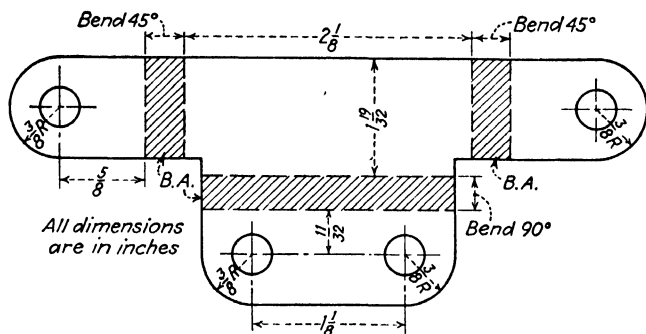

Fig. 258.
Figure 258 shows the diagram of a 0.125-in. low-carbon steel fitting.
2. Find the tensile strength of the fitting in Fig. 258 if the diameter of all holes is $\frac{1}{4}$ in., (a) each end; (b) at the side having two holes. Use the table of safe working strengths page 169.
3. Make a full-scale diagram of the fitting (Fig. 258), including the bend allowance.